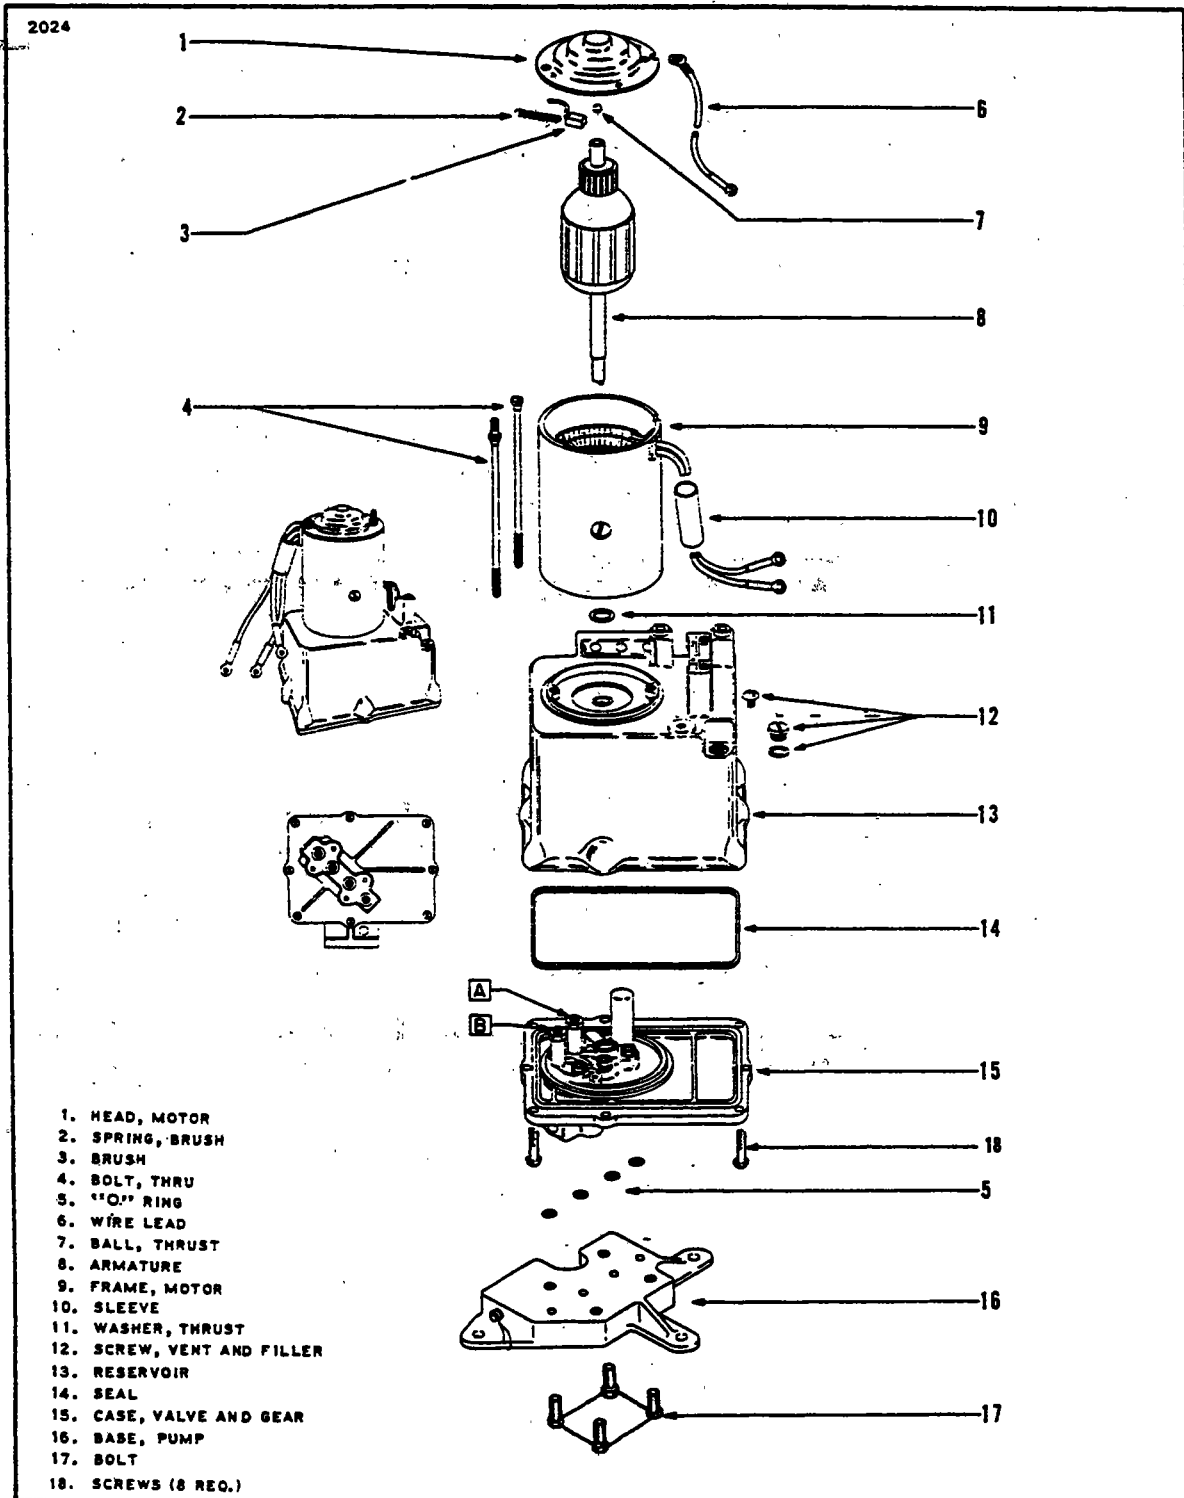

Figure 6-3. Hydraulic Pump/Reservoir, Exploded View
6-6. DISASSEMBLY OF HYDRAULIC PUMP. (Refer to Figure 6-3.) After the hydraulic pump has been removed from the airplane, cap or plug all ports and clean the exterior of the pump with a dry type solvent to remove accumulated dust or dirt. To disassemble any one of the three main components of the pump, proceed as follows:
6-8. ASSEMBLY OF HYDRAULIC PUMP. (Refer to Figure 6-3.)
5. Connect the blue lead to the positive terminal of the power supply. Pump should operate and the high pressure gauge should indicate between 1600 to 2000 psi. (Should the pressure be incorrect, adjust valve "A", Figure 6-3, in pump reservoir.)
7. Connect the green lead to the positive terminal of the power supply. Pump should operate in reverse, dropping the high pressure gauge to zero and the low pressure gauge should indicate between 500 to 800 psi. When the green lead is disconnected, both pressure gauges should indicate zero psi. (Should the pressure of 500 to 800 psi be incorrect, adjust valve "B", Figure 6-3, in pump reservoir.)